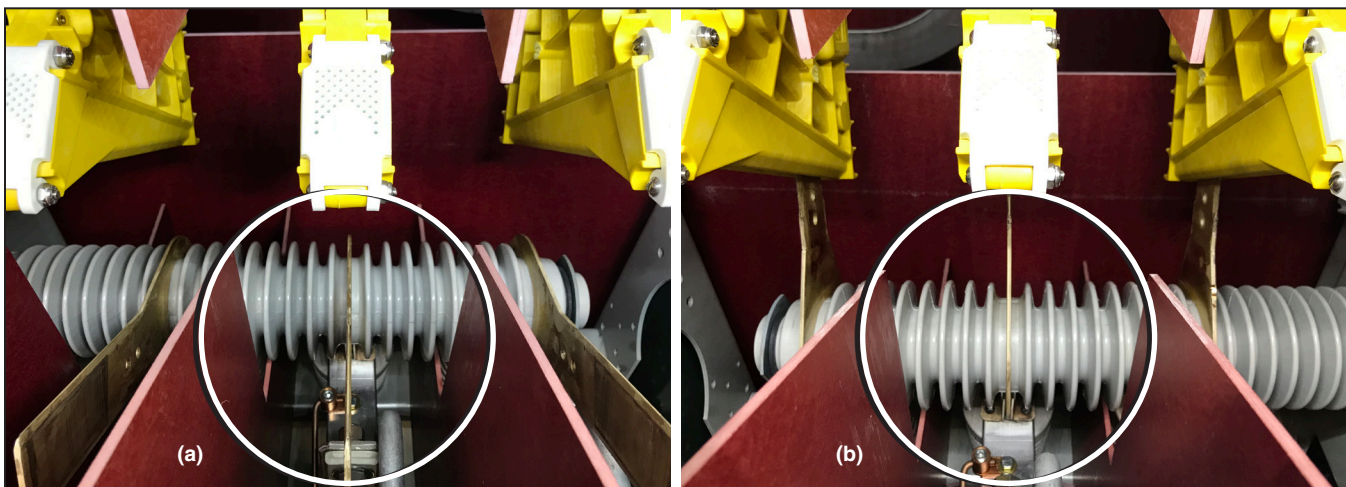

Figure 12. (a) Shows the switch in the Open position, and (b) shows the switch in the Closed position.
STEP 5. Check the physical position of the switch by using the viewing window provided in the switch-termination compartment. See Figure 12.